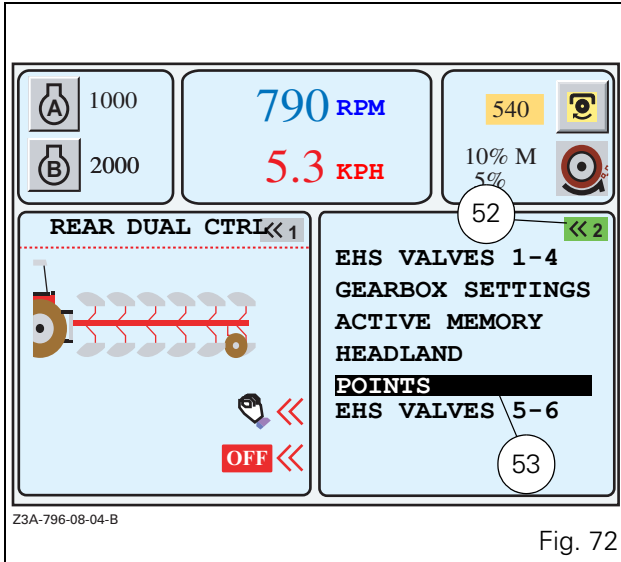
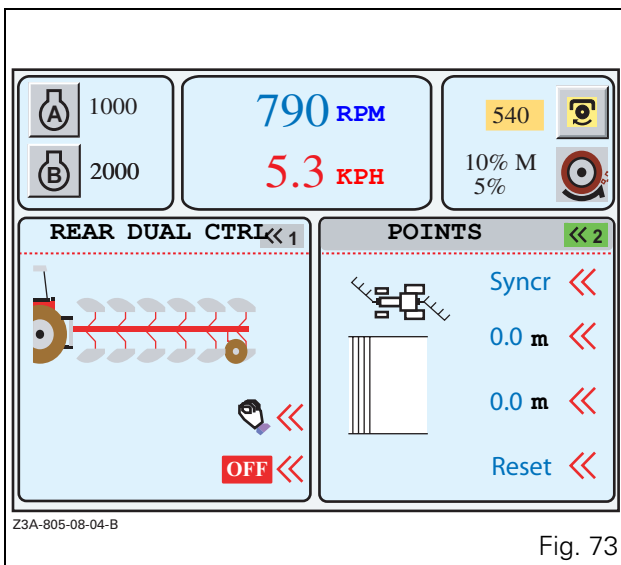

Fig. 72
Fig. 73
POINTS menu displayed only in the right-hand window (Fig. 72):
- To display this menu, press key <<2 twice. The first press selects the window and the second press displays the list if no application was activated previously. The active application is indicated by the green icon at the top right-hand of the window (52 Fig. 72), and on b/w screens the active window is indicated by the same icon in reverse video.
- To select the POINTS menu, select the application using the encoder. The selected application is displayed in a black frame (53 Fig. 72). Validate by pressing the encoder. The window (Fig. 73) is displayed.